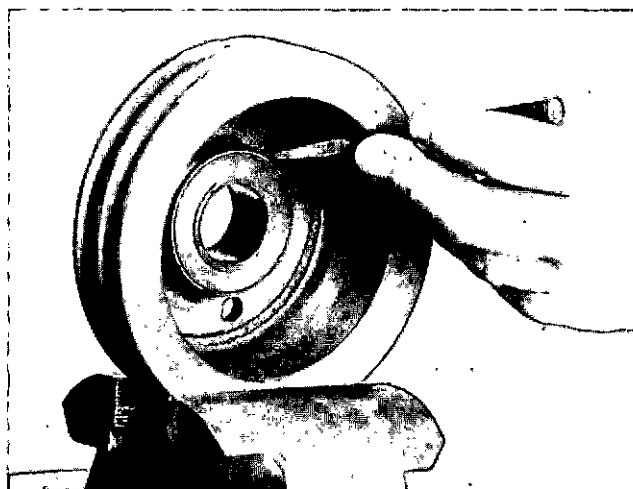

Fig. 8-21 (N10864). Cut The Wear Sleeve.
6. Check the wear sleeve (23, Fig. 8-15) for wear or damage. To remove the sleeve, use a chisel to cut a groove in the sleeve, Fig. 8-21. Be careful and do not damage the pulley. Use a